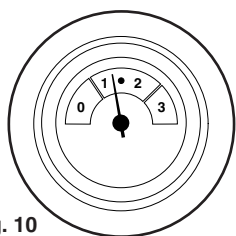

Fig. 10
2. The normal operating pressure is the range between 1 and 2.5 (Fig. 10).